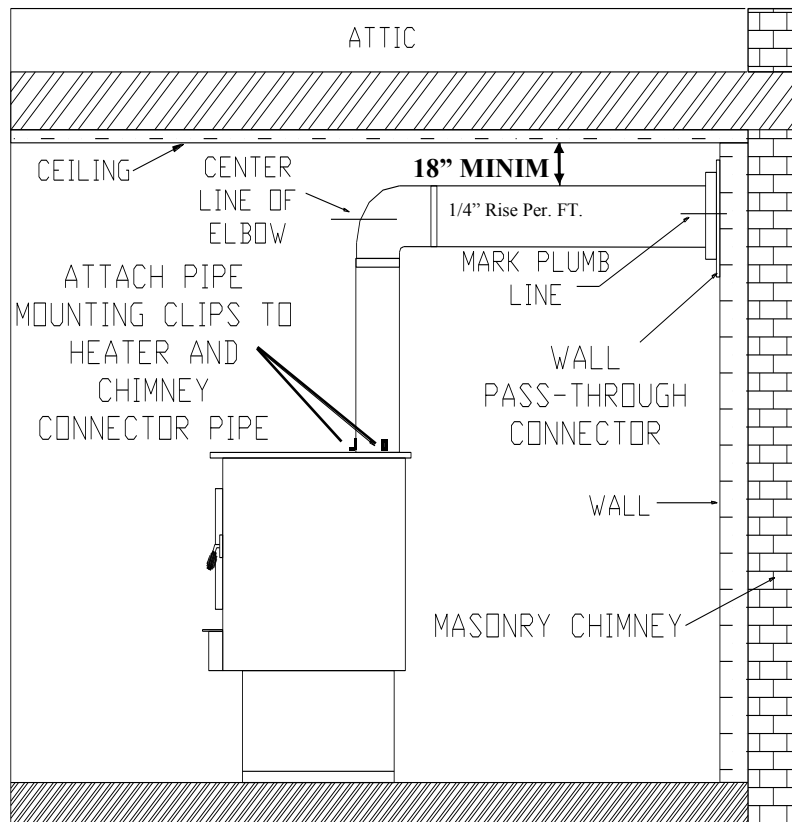

FIGURE 16
3. Measure so there will be at least 1/4" rise per foot of horizontal connector pipe, maintaining clearances to ceiling as noted in Figure 16. This will give you the center of the hole for chimney penetration.
5. Connect chimney pipe to tee-box using #24 ga. minimum blued or black steel pipe. (DO NOT use galvanized pipe.) Each section should fit into section below or into opening on stove, for drip-free operation. Secure each section together by using at least three (3) sheet metal screws or rivets.